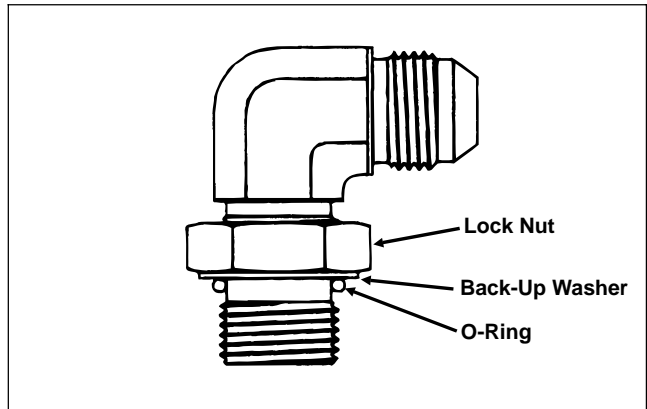

Figure 5
**SAE Straight Thread O-Ring Port - Adjustable (Fig. 5, 6)**